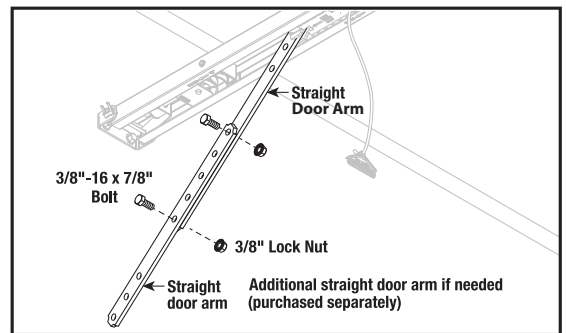

Fig. 3
4. Install door arms as illustrated in Fig. 3 & 4